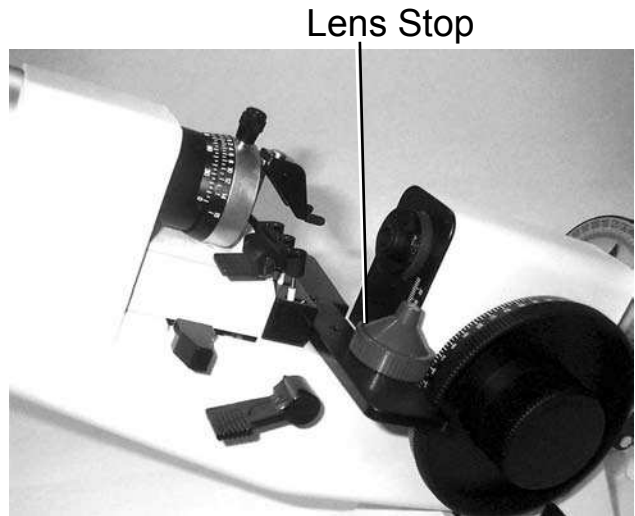

Fig. 12
1. Remove the spectacle lens stop. Figure 12 shows the stop removed and placed on the lens table.